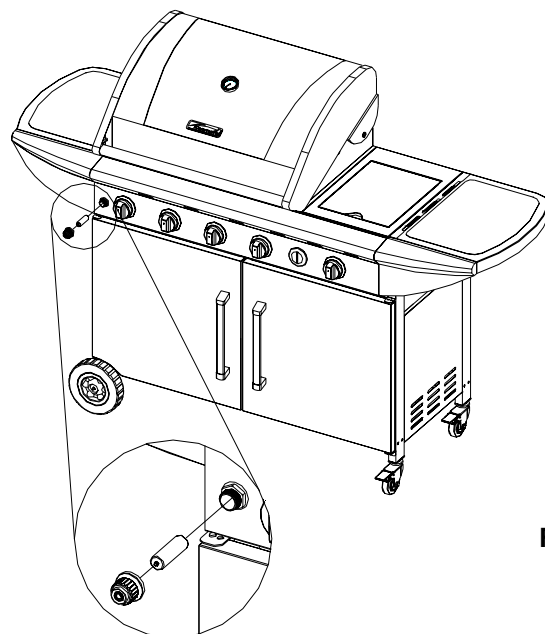

Figure 19
3.Replace the ignition battery cap after the battery has been installed. (Fig.19)